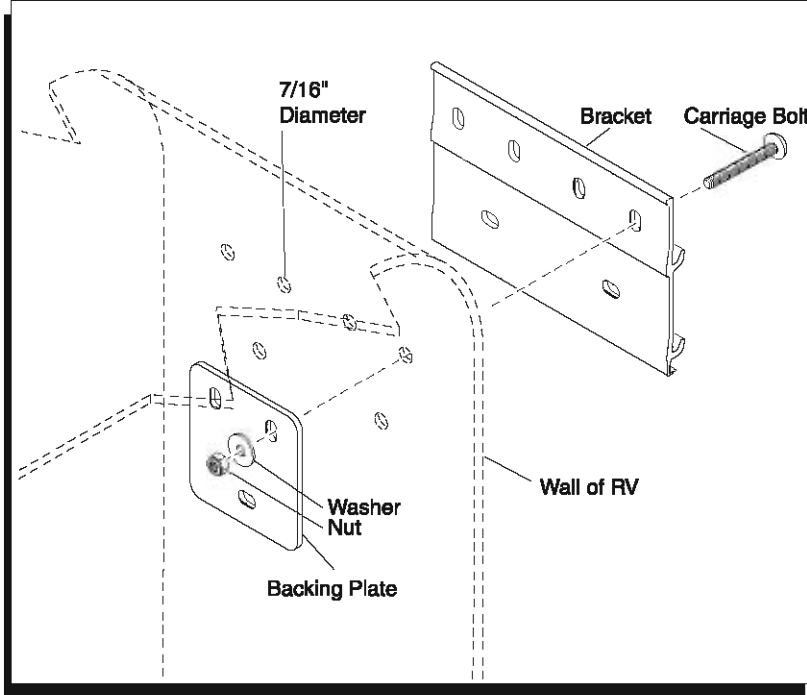

FIGURE 23
8. Pre-drill six (6) 7/16" diameter holes per bracket through side of RV.
11. Install the two (2) outer brackets first, and the center (small) bracket (if required) last with six (6) 7/16" diameter (carriage) bolts, washers, and lock nuts, along with two (2) backing plates per bracket (see Fig. 23).
12. Fasten brackets with 7/16" carriage bolts backing plate's washers and nuts (see Fig. 23).